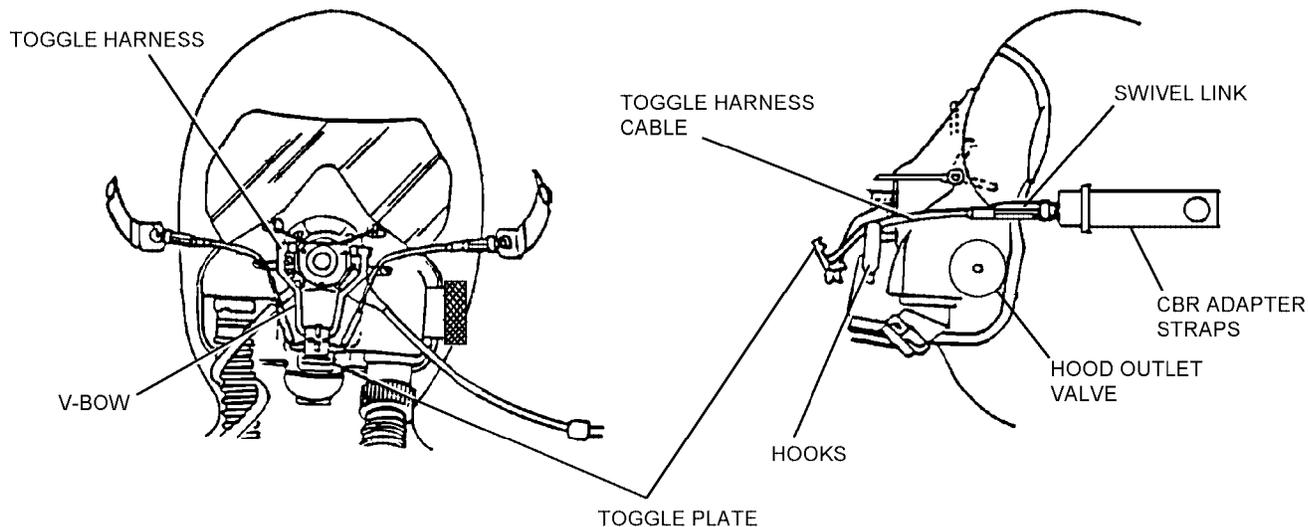

Figure 4-16. Toggle Harness Assembly
**4-21. Toggle Harness Assembly.** The toggle harness assembly (figure 4-16) is mounted on the front of the faceplate around the microphone. The assembly is held in place by four (4) countersunk screws which pass through the mask harness assembly and into the faceplate. The screws are drawn tight by four self-locking nuts. A V-shaped hinged bow (V-bow), which freely pivots upward or downward, is suspended from two rectangular studs protruding from the mask harness assembly. Attached to the end of the bow is a toggle plate which pivots upward and downward, and provides the tension for tightening the mask to the aircrewmember's face. Two toggle harness cables are connected to